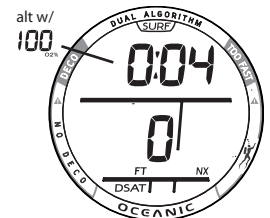

Fig. 44 - O2 ALARM (on surface)
Upon surfacing, the the O2 value (100) will alternate with Surface Interval time (Fig. 44).